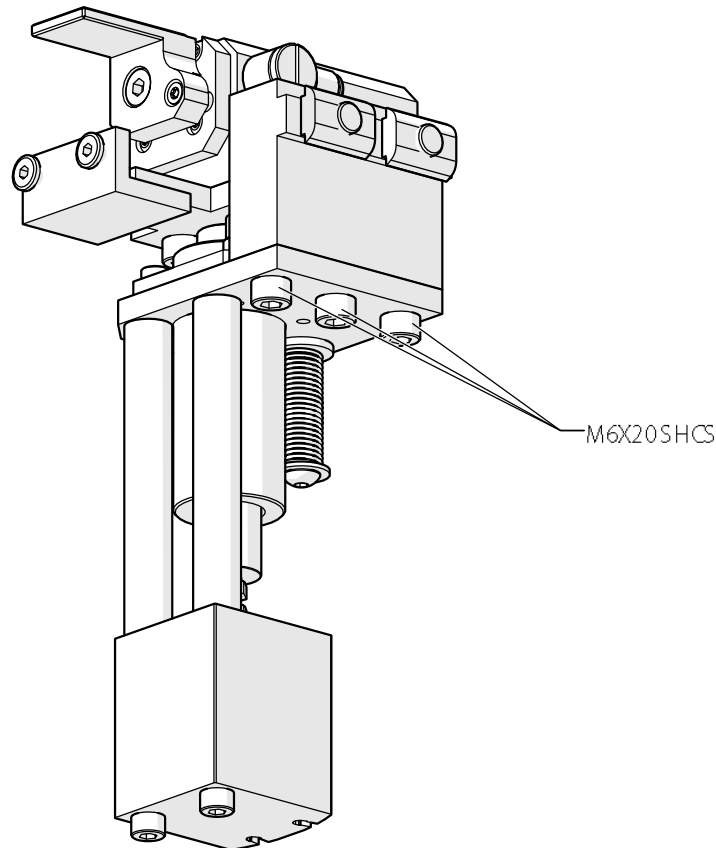

Figure 4: M6 SHCS on TKDS
**Step 1:** Loosen and remove M6 SHCS as shown in Figures 4 and 5.